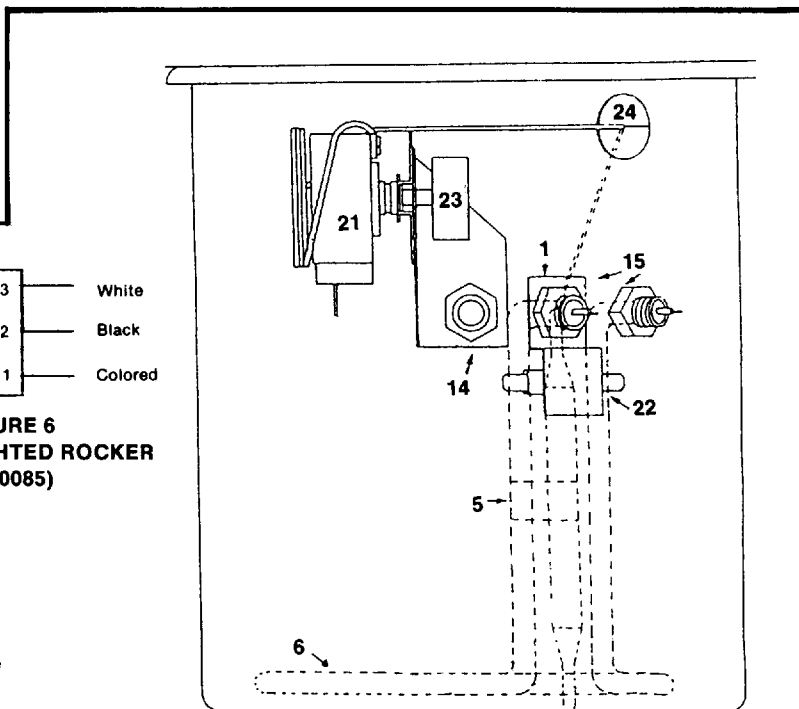

FIGURE 3
TANK ASSEMBLY, POUR-OVER (100455) Fig. 3
5. Remove grommet (fig. 3 no. 24) from tank by pressing grommet with thumb from outside of tank.
THERMOSTAT, HI-LIMIT (100174) Fig. 3 No. 22
ELEMENT, TANK HEATING (100033) Fig. 3 No. 6